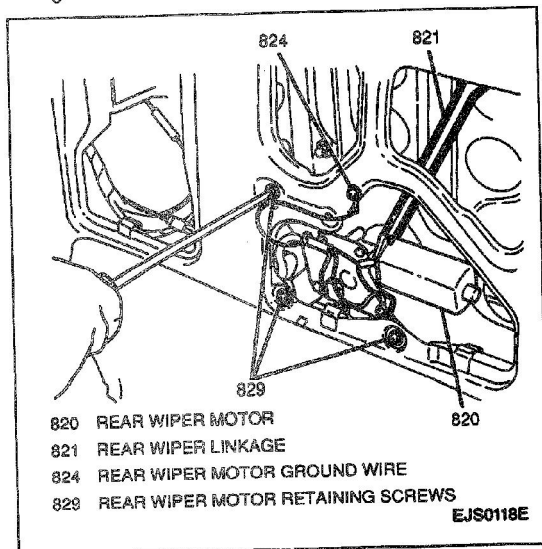

Figure 13—Removing Rear Wiper Motor and Rear Wiper Linkage
7. Three screws retaining rear wiper motor to rear door (Figure 13).
8. One screw and rear wiper motor ground wire from rear door (Figure 13).
3. Three screws securing rear wiper motor to rear door (Figure 13).
4. One screw and rear wiper motor ground wire from rear door (Figure 13).